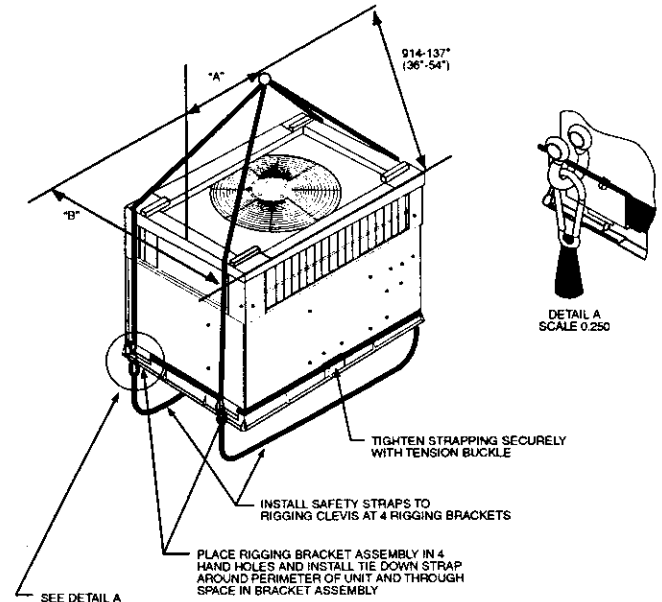

Fig. 9—Lifting Point
6. Attach field-supplied clevis or hook of sufficient strength to hole in the lifting bracket (See Fig. 9).
7. Attach the 2 safety straps directly to the clevis or hook at the 4 rigging brackets. **DO NOT** attach the safety straps to the lifting brackets (See Fig. 9).